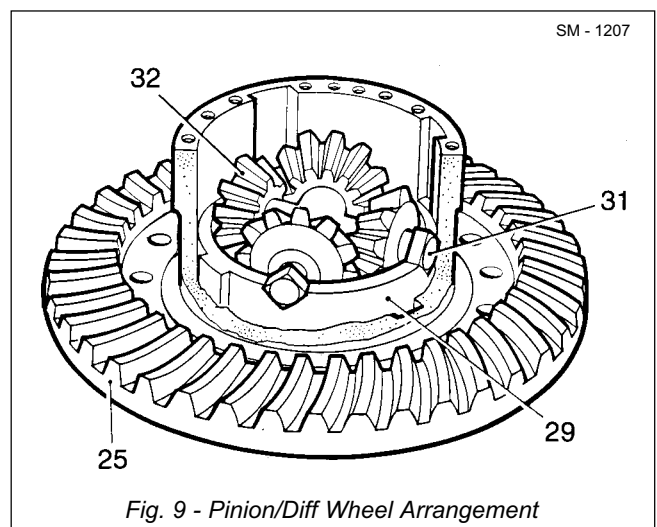

Fig. 9 - Pinion/Diff Wheel Arrangement
7. Install wheel (30) into cage half (29) engaging splines with both friction plates (28) and end face hard against thrust washer (26).
8. Assemble pinions (32) onto trunnion (31) and lay assembly in place in cage half (29), in mesh with wheel (30) as shown in Fig. 9.
9. Add remaining wheel (30) and cage half (29).
10. Stack alternate friction and steel clutch plates (28 & 27) then check that cage half (29) and clutch plates will slide in differential housing body (20) by raising and lowering wheel (30).